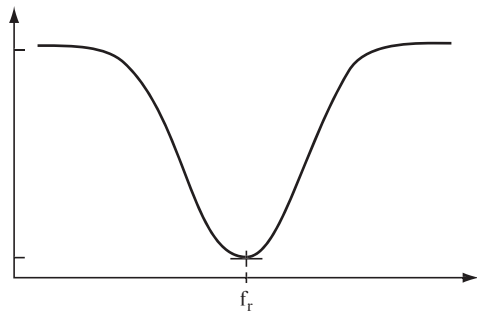
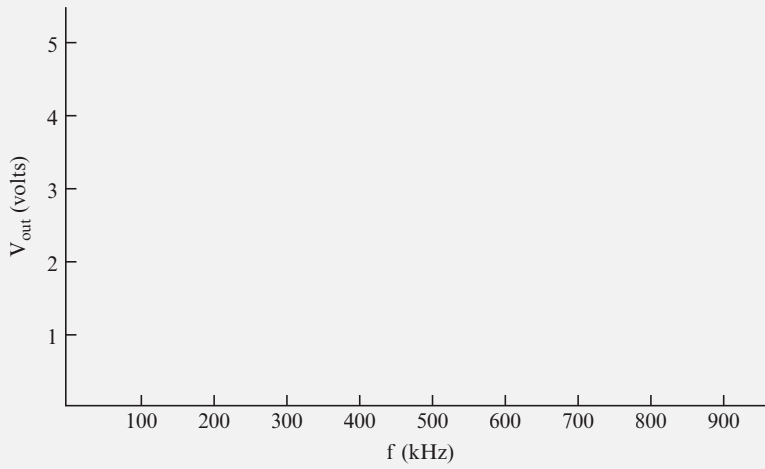

FIGURE 7.6
FIGURE 7.8
If V_{out} is plotted on a graph against the frequency for the circuit shown in Figure 7.5, the curve looks like that shown in Figure 7.6.
8. In the blank graph shown in Figure 7.8, plot V_{out} vs f_{in} with the voltage on the vertical axis and the frequency on the X axis. The curve should have the same shape as the curve shown in Figure 7.6.